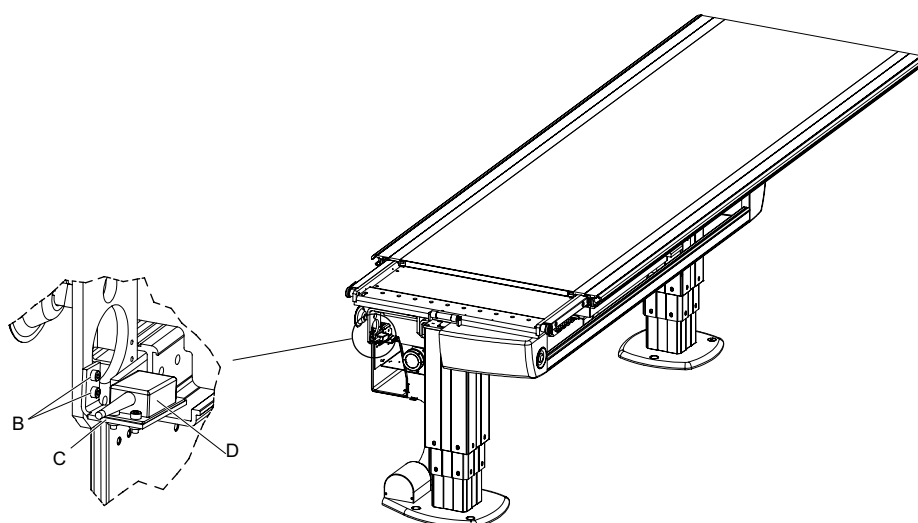

Fig. 4-158 Angle the bracket C
- c Loosen the bolts (B), see **Fig. 4-158**, and angle the bracket (C) until the output of the tilt sensor (D) is  $3\text{ V} \pm 0.2\text{ V}$ .